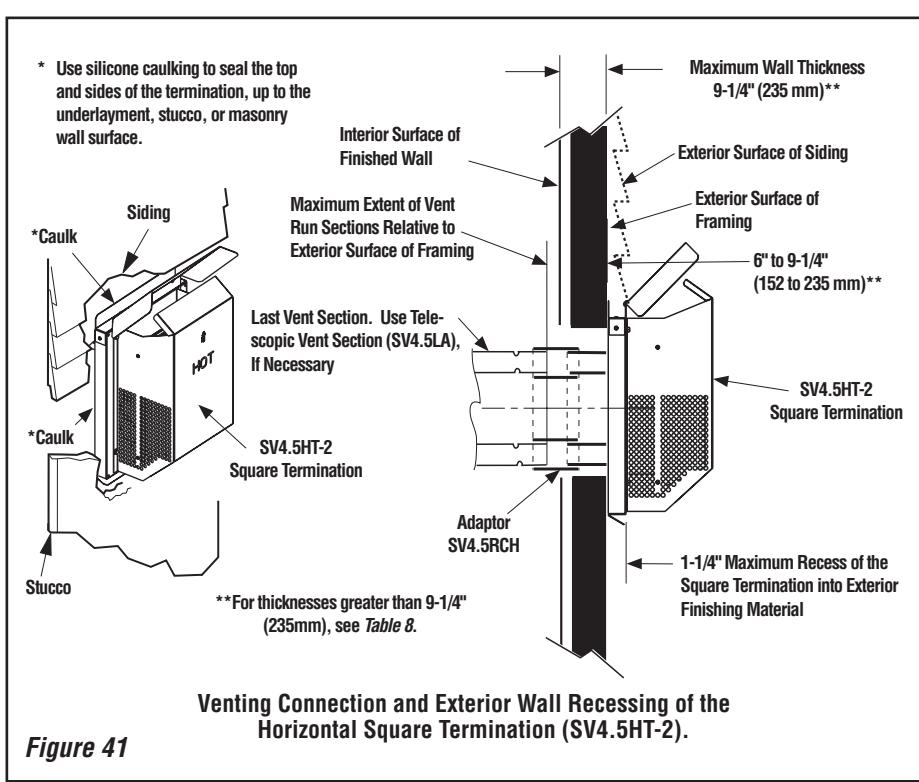

Figure 41 **Venting Connection and Exterior Wall Recessing of the Horizontal Square Termination (SV4.5HT-2).**
J. Assemble vent run to exterior wall - If not previously measured, locate the center of the vent at the exterior wall. Prepare an opening as described in **Step B**. Assemble the vent system to point where the terminus of the last section is within 7" (178 mm) to 11-1/4" (286 mm) inboard of the exterior surface to which the SV4.5 HT termination is to be attached, see **Figure 41**. If the terminus of the last section is not within this distance, use the telescopic vent section SV4.5LA, as the last vent section. For wall thicknesses greater than that shown in **Figure 41**, refer to **Table 8 on Page 25**. This table lists the additional venting components needed (in addition to the termination and adaptor) for a particular range of wall thicknesses.
1. Install the square termination (SV4.5HT-2)- For the last step , from outside the exterior wall, slide the collars of the termination onto the adaptor (the outer over the outer and the inner inside the inner) until the termination seats against the exterior wall surface to which it will be attached. Orient the housing of the termination with the arrow pointed upwards. Secure the termination to the exterior wall. **The horizontal termination must not be recessed into the exterior wall or siding by more than the 1-1/4" (32 mm) as shown in **Figure 41**.**
Table 8 *NOTE: See Figure 41 showing wall thickness range when using SV4.5HT-2 termination kit.*